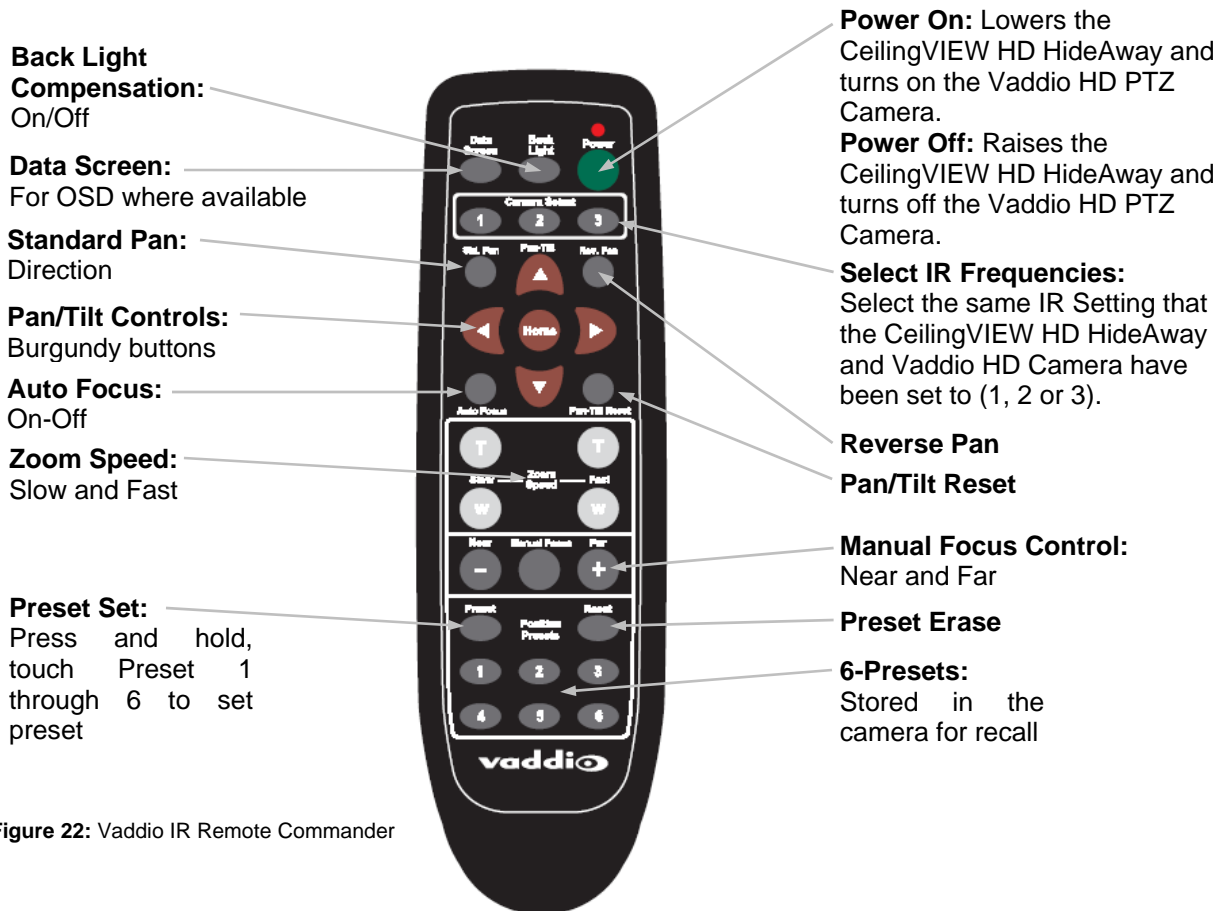
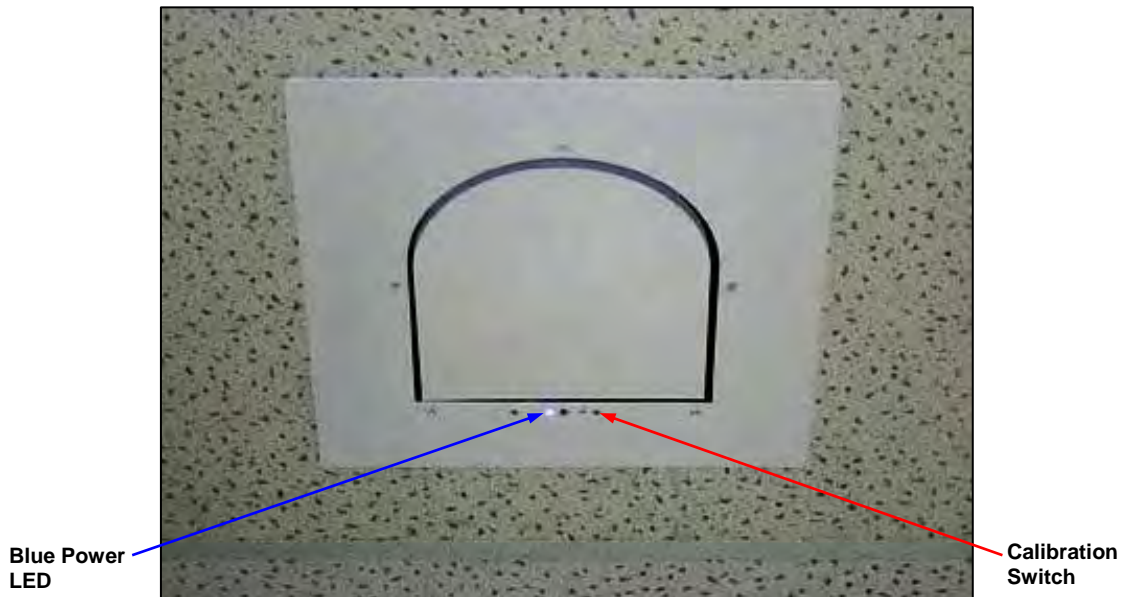

Figure 22: Vaddio IR Remote Commander
Figure 23: CeilingVIEW HD HideAway Ceiling Trim Ring/Calibration Switch Location
- Use the Power Button (green) on the Vaddio IR Remote Commander to power the CeilingVIEW HD HideAway on and lower the camera lift (see Figure 22). The Vaddio IR Remote Commander must be pointed to the CeilingVIEW HD HideAway (in the direction of the IR Sensor in the Trim Plate Assembly (see Figure 23) to activate the CeilingVIEW HD HideAway and lower the camera lift. Once the camera lift
- 2) Use the Power Button (green) on the Vaddio IR Remote Commander to power the CeilingVIEW HD HideAway on and lower the camera lift (see Figure 26). The Vaddio IR Remote Commander must be pointed to the CeilingVIEW HD HideAway (in the direction of the IR Sensor in the Trim Plate Assembly (see Figure 23) to activate the CeilingVIEW HD HideAway and lower the camera lift. Once the camera lift is lowered, the Vaddio IR Remote Commander must be pointed to the front of the Vaddio HD PTZ Camera in order to be received by the camera to control PTZ functions.